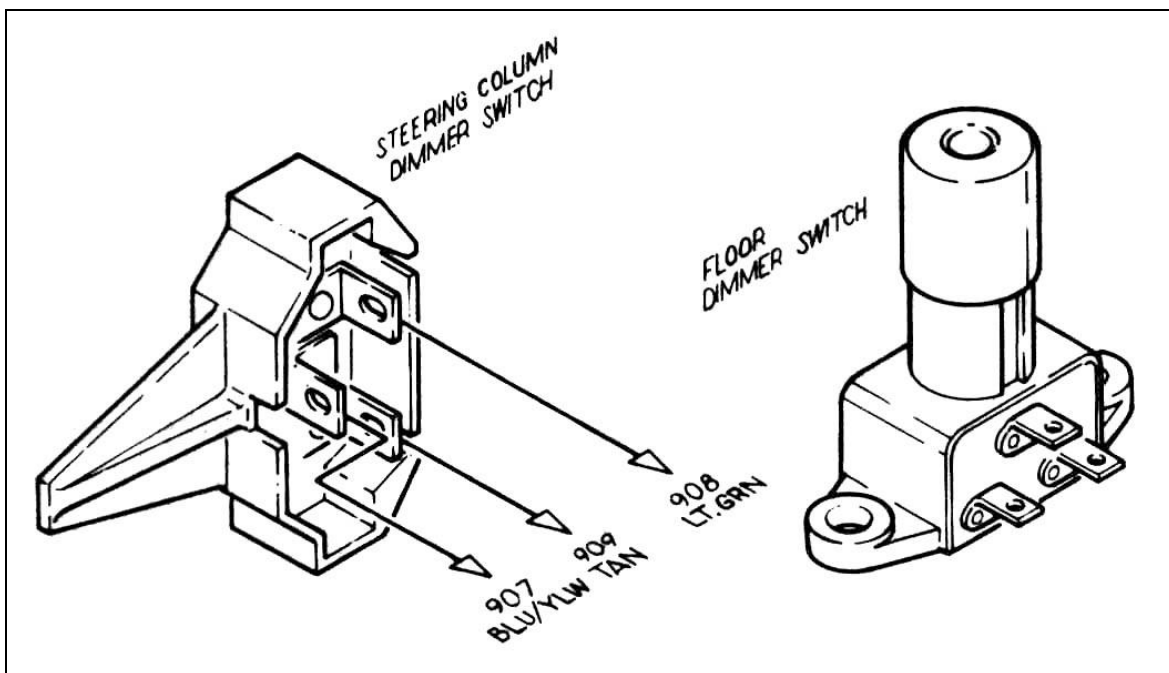

Figure 8.4 Dimmer Switches (Push Button Style – Painless Part #80150)
8.3 HEADLIGHT SECTION B Wiring. See Figure 8.4